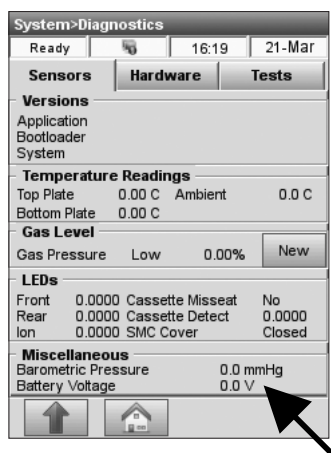

Fig. 8-7 Battery Voltage
- The second display in the **<Miscellaneous>** section shows the battery voltage (Fig. 8-7).